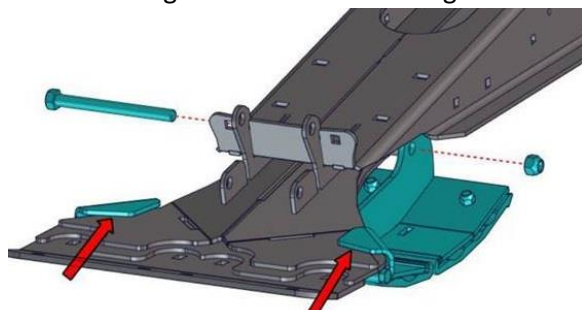

Figure 230
3. There are skid shoe can be used to gain more height for the cutterbar. Figure 230